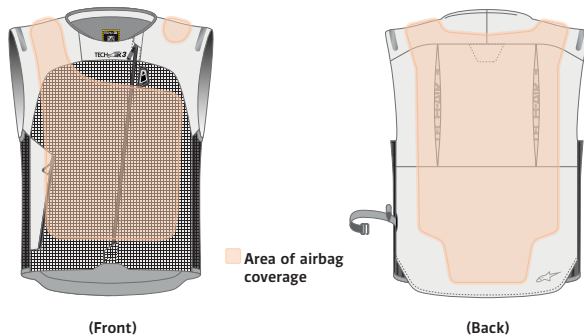

Figure 2: Area of Airbag coverage
The System provides impact protection, on the areas shown in Figure 2, to the user (both as rider and as a passenger) wearing the System in the event of an accident or other triggering events. Note that there are limitations to the protection it can provide as explained later in this user manual (see Section 3.2 and Section 4 "Limitations of Use").
**WARNING! The System provides only limited impact protection against forces in the areas of Airbag coverage as depicted in Figure 2. No guarantee is given that the System will prevent injuries (including severe or fatal injuries) inside and/or outside the areas of Airbag coverage or the Envelope of Protection.**